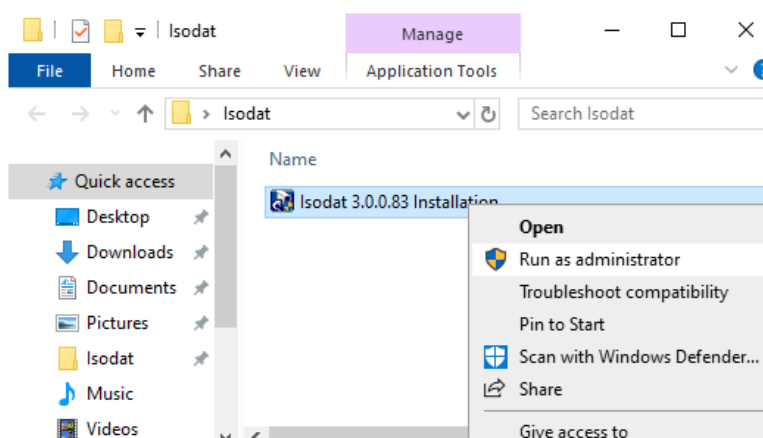

Figure 3-3. Isodat installation - select Run as Administrator
4. From the context menu, select **Run as administrator**, see Figure 3-3.